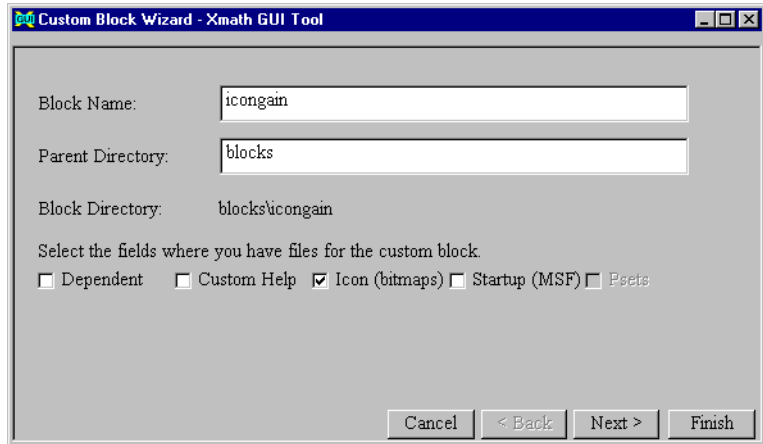

Figure 19-1. Custom Block Wizard Fields
- c. In the Parent Directory field, type in the location where the new custom block subdirectory is to be created. If you want your files to be portable, specify a relative path, as discussed in the Using Relative Paths for Icon Files section and as shown in Figure 19-1. Press the <Enter> or <Return> key to update the Block Directory field.